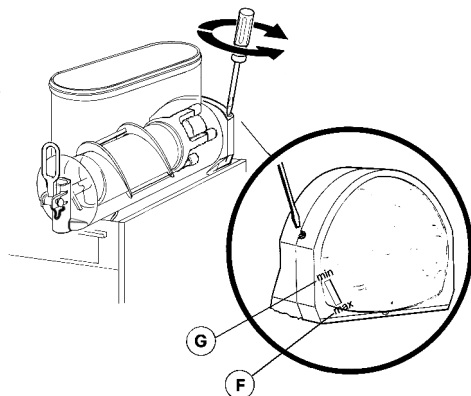

figure 5
- 1 **Granita viscosity adjustment:** proper Granita viscosity is factory preset. To change the viscosity, if needed, use a standard screwdriver to turn the adjustment screw located in the rear wall of each container as follows (see figure 5):